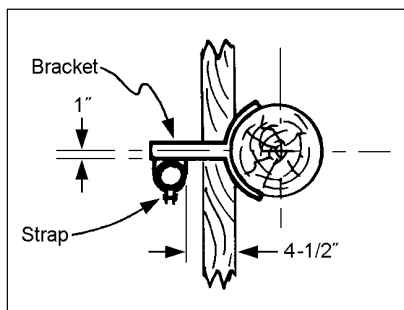

Figure 2.2
- 2.2. A single conduit 2" and larger, or one with conductors of 750 volts or more, shall be spaced out from the pole face 4-1/2" and offset to give 1" clear space between the conduit and the center line of the pole lead. (Fig. 2.2)